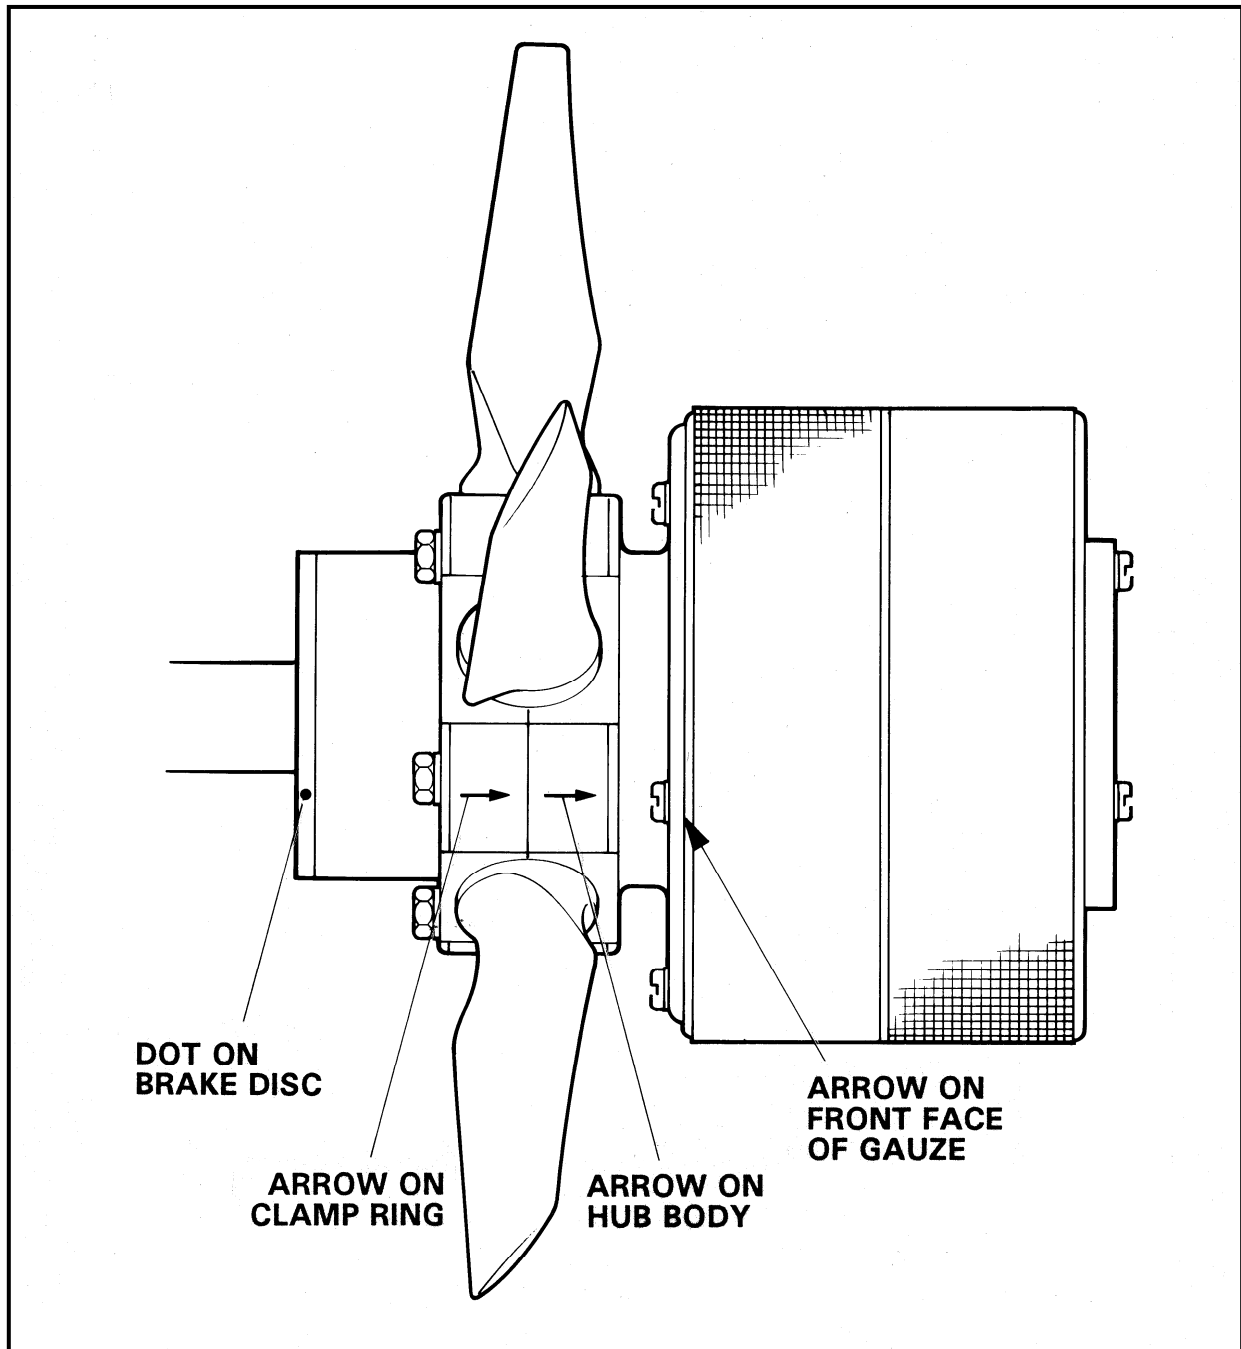

Fig. 7 – Alignment of Components
7. Locate the brake plate in the end of the hub and align the dot adjacent to one hole with the arrow on the side of the hub body as shown in Fig. 7. Secure with five countersunk screws, ensuring that these are securely and evenly tightened.
Place the gauze on the perforated drive tube, aligning the arrow on the front face of the gauze with the arrow on the hub body as shown in Fig. 7.
1. Replace all blades in their sockets and fit the clamp ring after checking that the numbers on the hub and clamp ring match. Check that the arrow on the ring aligns with the arrow on the hub as shown in Fig. 7. This ensures that the atomiser will be correctly balanced.